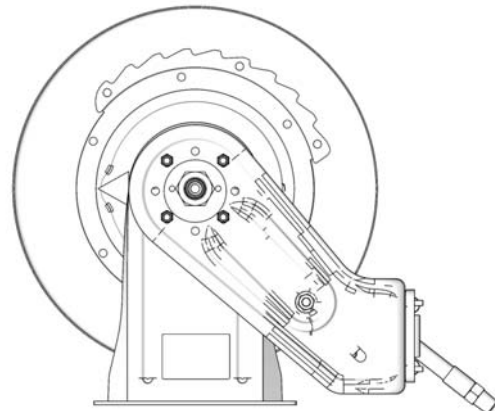
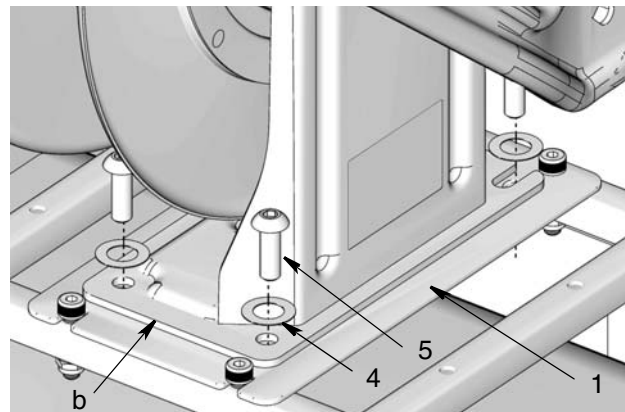

FIG. 2
FIG. 3
2. Tighten screws (2) securely.
3. Align the hose reel base (b) to the adapter plate (1) (FIG. 3), making sure the arm is located in the position shown in FIG. 2.
4. Install the 4 washers (4) over 4 bolts (5). Then install bolts through the hose reel base (b) and mounting holes in adapter plate (1) as shown in FIG. 3.